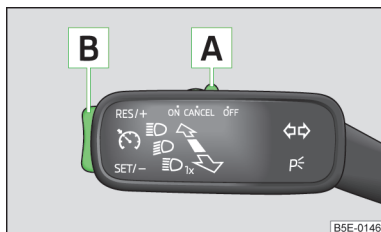

Fig. 135
- Turn the switch » Fig. 135 into the **ON** position.
- Turn the switch » Fig. 135 into the **OFF** position.
- Press the rocker button in position **SET** » Fig. 135 on page 140.
- Press the rocker button in position **RES** » Fig. 135 on page 140.
The stored speed can be **reduced** by pressing the rocker button » Fig. 135 on page 140 into the position **SET**.
The cruise control system is **temporarily switched off** by pressing the switch » Fig. 135 on page 140 into the spring-tensioned position **CANCEL** or by depressing the brake pedal.